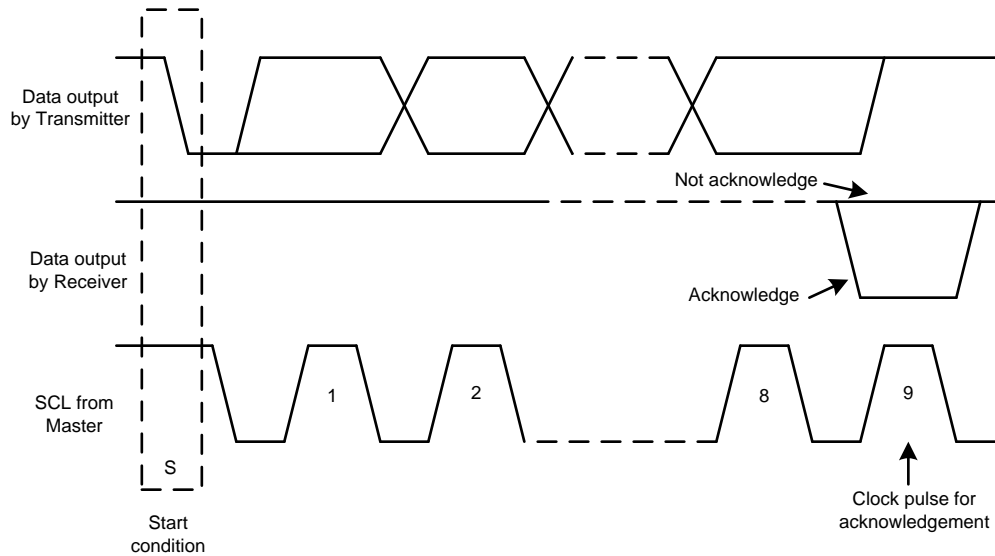

Figure 56. Acknowledge and Not Acknowledge on the I2C™ Bus
Other than specific timing signals, the I2C™ interface works with serial bytes. At the end of each byte, a ninth clock cycle generates and detects an acknowledge signal. Acknowledge is when the SDA line is pulled low during the high period of the ninth clock cycle. A not-acknowledge is when the SDA line is left high during the high period of the ninth clock cycle as shown in Figure 56.
2. The master then generates the SCL pulses, and transmits the 7-bit address and the read/write direction bit (R/W) on the SDA line. During all transmissions, the master ensures that data is valid. A valid data condition requires the SDA line to be stable during the entire high period of the clock pulse, as shown in Figure 58. All devices recognize the address sent by the master and compare it to their internal fixed addresses. Only the slave device with a matching address generates an acknowledge by pulling the SDA line low during the entire high period of the 9th SCL cycle, as shown in Figure 56 by pulling the SDA line low during the entire high period of the 9th SCL cycle. Upon detecting this acknowledge, the master knows the communication link with a slave has been established.